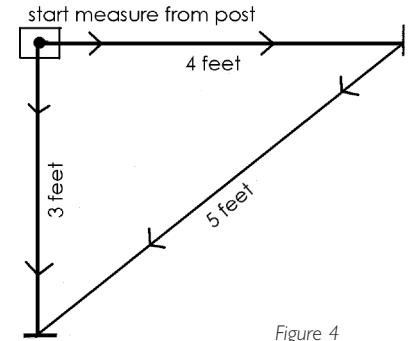

Figure 4
10. Layout First Short Side – From the second corner, measure across the short side 20 meters. Use the 3-4-5 formula (*figure 4*) to get the corner square. Use a Corner post and a stake at this point. Now tie a string between the two stakes. This is your first short side.
11. Layout Second Short Side – From the first corner, measure across the short side 20 meters. Use the 3-4-5 formula (*figure 4*) to get the corner square. Place a stake at this point and place a corner post onto the stake. Now tie a string between the two stakes. This is your second short side.